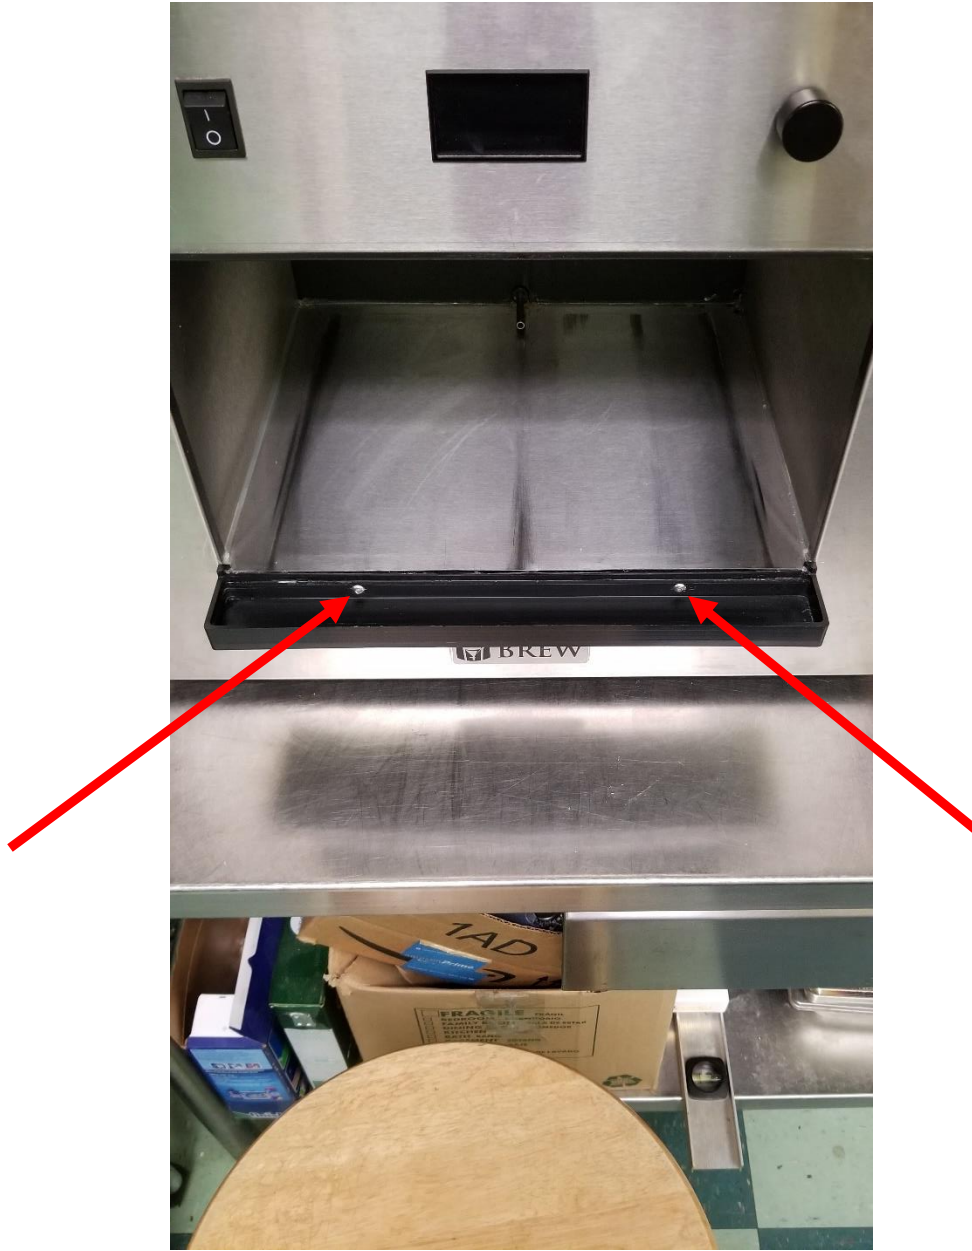

Figure 8
1. Remove Stainless Steel mesh from drip tray. See Figure 8.